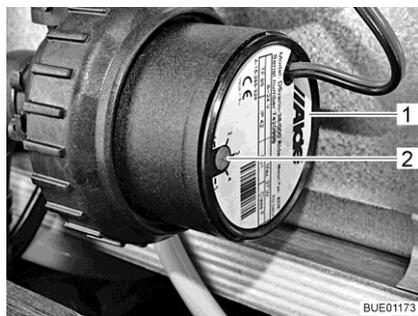

Fig. 236 Speed reduction
The rotational speed of the circulating pump can be set with the control knob (Fig. 236,2). At a lower rotary speed, the operating sounds of the pump are quieter.
The control knob is located on the circulating pump (Fig. 236,1).
- Turn the control knob (Fig. 236,2) in an anticlockwise direction. The output is reduced.